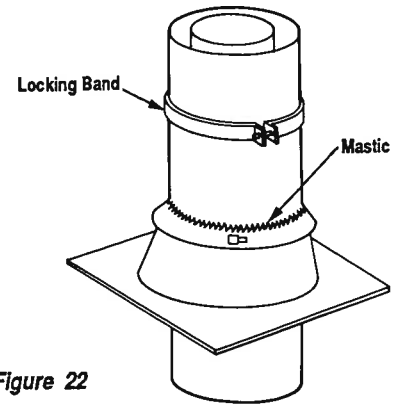

Figure 22
Step 9. Superior locking bands, Models 8LB or BC8-LB, may be required if the chimney extends too high above the roof flashing. As a general rule, if the chimney extends more than 6' above the roof flashing, the use of locking bands is advisable to strengthen the chimney assembly. Align the locking band at the chimney joint. Locking bands wrap around pipe joints equally covering the joints of both pipe sections. Use nut provided and TIGHTEN snugly. Do not over-tighten as this might damage chimney section (Figure 22).